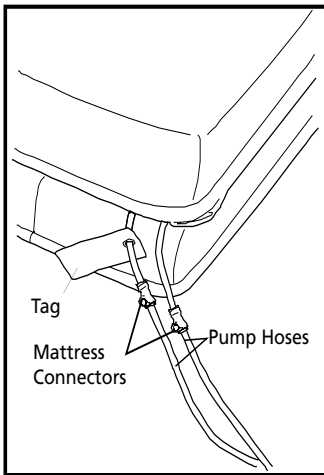

Figure 7 120V
2. Attach pump hoses to mattress, as shown at right (Figure 7):